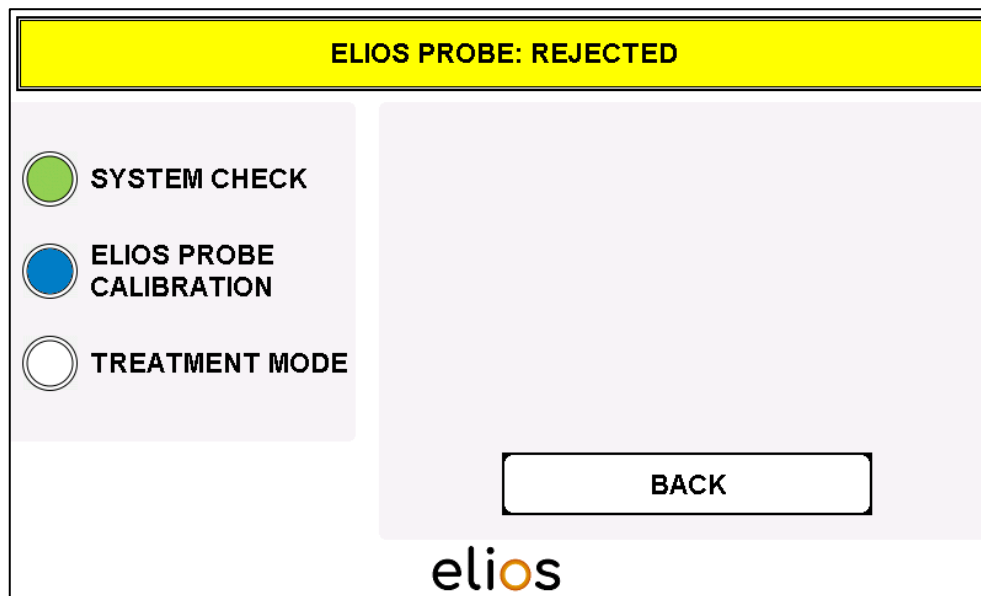

Fig. 4-8: Fiber recognition – ELIOS PROBE: REJECTED
- The software recognizes already used and resterilized fibers and prevents their use. The notification “**ELIOS PROBE: REJECTED**” is shown and it is not possible to continue in the program (Fig. 4-8).
- The previous menu is reached again by pressing **"BACK"** (Fig. 4-8).